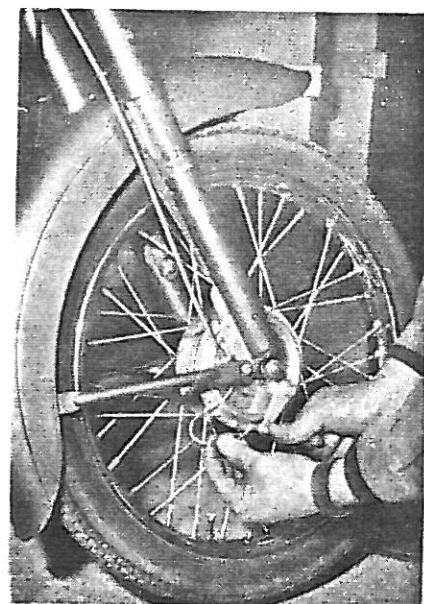

fig. 11
10. Trace the cable from the front wheel brake lever on the right handlebar down between the front forks through the cable loop on the right fork to the bracket on the right side of the wheel hub. Slip the plastic sleeve for retaining excess cable over the lower end of the brake cable. Put the cable end into the bracket as shown. (Fig. 11).